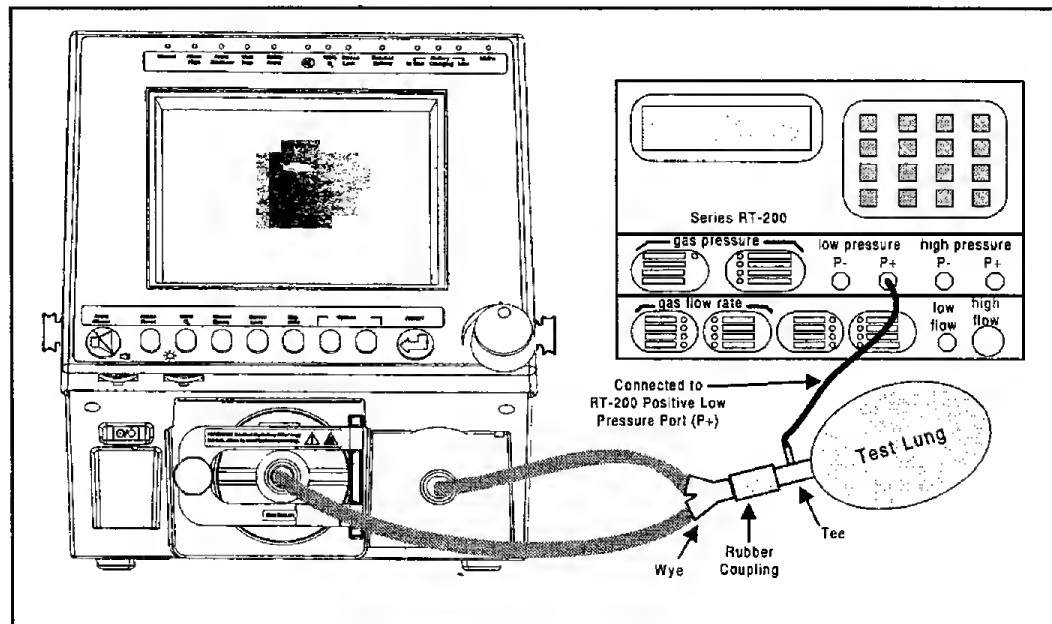

Figure 6-2: Pressure Accuracy Test Configuration
1. Connect the RT-200 to the ventilator per Figure 6-2.